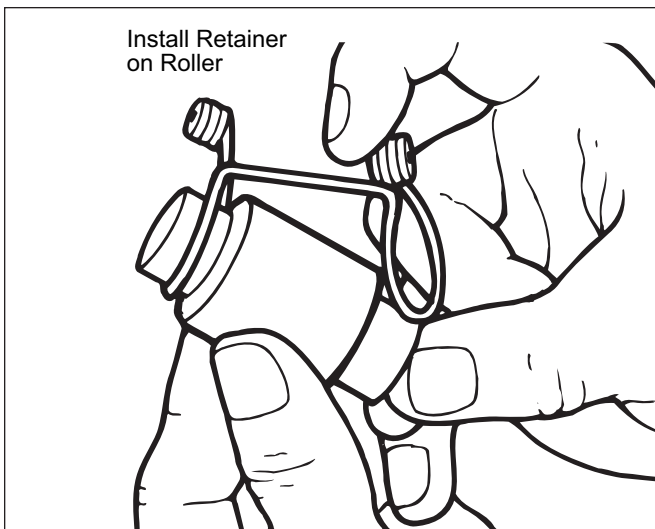

Figure 72. Roller Retainer Installation
9. Assemble roller retainer on ends of roller as shown below. Refer to Figure 72.